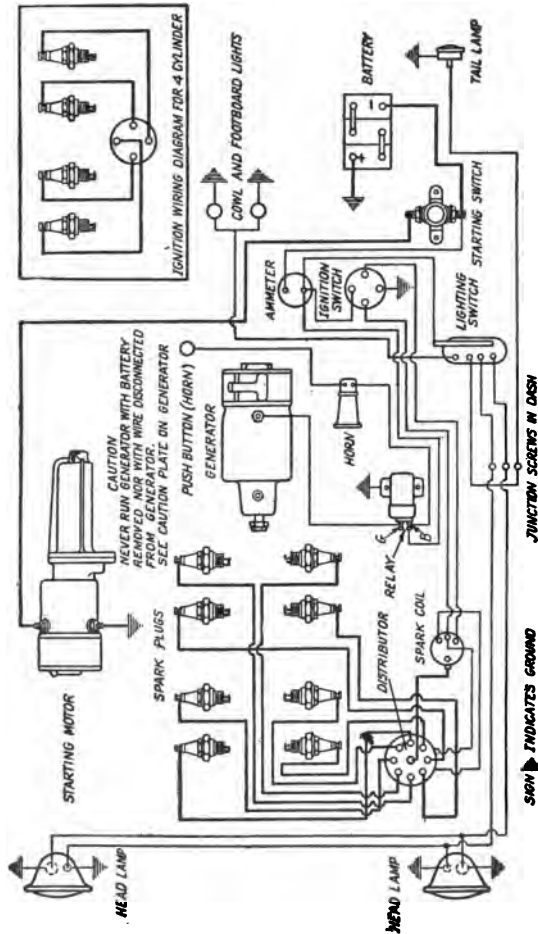

Fig. 356. Wagner Two-Unit System for Scripps-Booth Four- and Eight-Cylinder Models
**Wiring Diagram.** A typical wiring diagram of the Wagner two-unit system as installed on the Scripps-Booth four- and eight-cylinder models is shown in Fig. 356. The only difference in the wiring of the two models has to do with the igni-